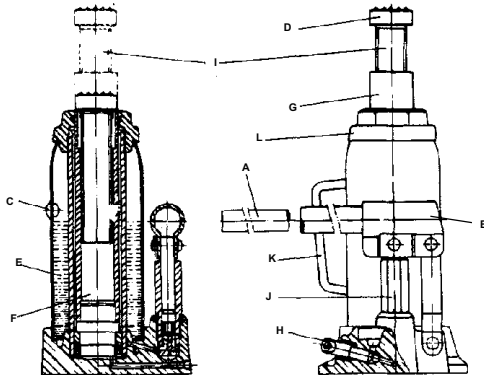

FIG. 3
(refer to Fig. 3, page 4)
- Remove oil filler plug (see Fig. 3).
- To drain oil, remove oil filler plug and open release valve (see Fig. 3).
- Check ram and pump plunger (see Fig. 3) every few months for any signs of rust or corrosion. Clean as needed by wiping with an oily cloth.